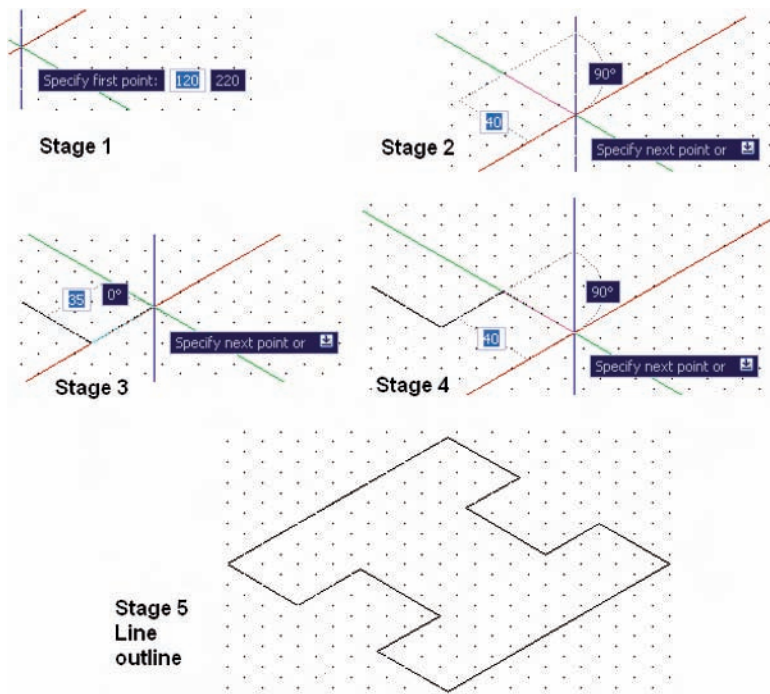

Fig. 13.33 Example – constructing the **Line** outline
1. Using the line tool construct the outline in Fig. 13.33.